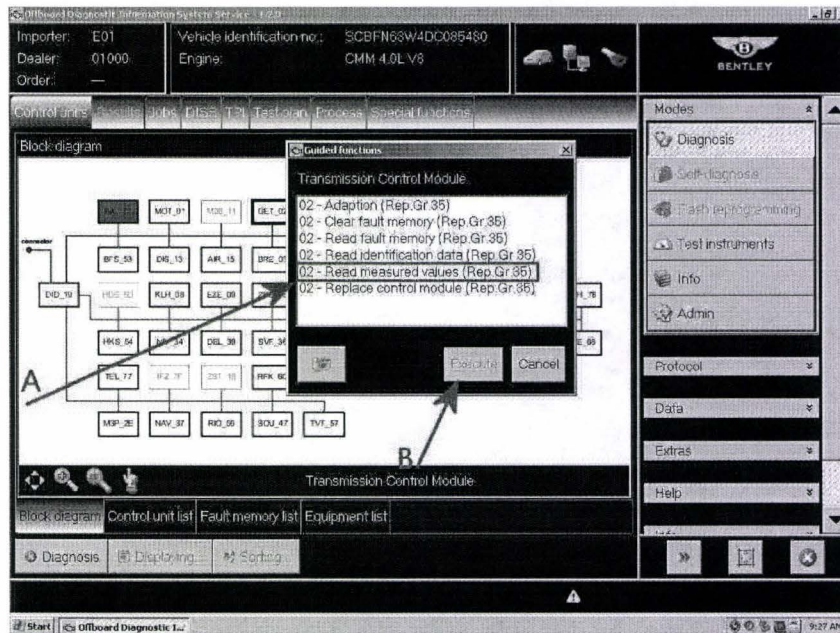

Figure 7
- From the Guided functions menu as shown in Figure 7 (point A) select 02 – Read measured values (Rep.Gr.36) and then select Execute (Point B)